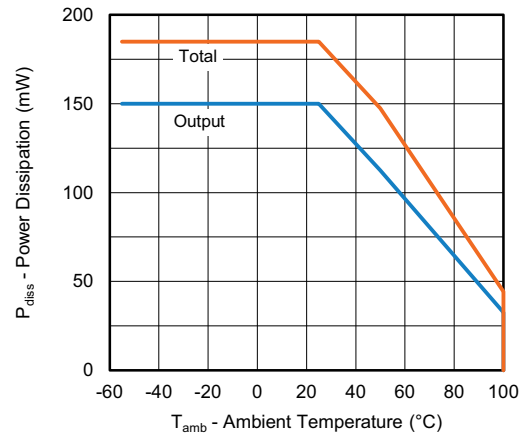

Fig. 2 - Power Dissipation vs. Ambient Temperature
- (1) Common mode transient immunity in logic high level is the maximum tolerable (positive)  $dV_{cm}/dt$  on the leading edge of the common mode pulse,  $V_{CM}$ , to assure that the output will remain in a logic high state (i.e.  $V_O > 2 \text{ V}$ ) common mode transient immunity in logic low level is the maximum tolerable (negative)  $dV_{cm}/dt$  on the trailing edge of the common mode pulse signal,  $V_{CM}$ , to assure that the output will remain in a logic low state (i.e.  $V_O < 0.8 \text{ V}$ )
- (2) In applications where  $dv/dt$  may exceed 50 000 V/ $\mu$ s (such as state discharge) a series resistor,  $R_{CC}$  should be included to protect  $I_C$  from destructively high surge currents. The recommended value is refer to Fig. 2.